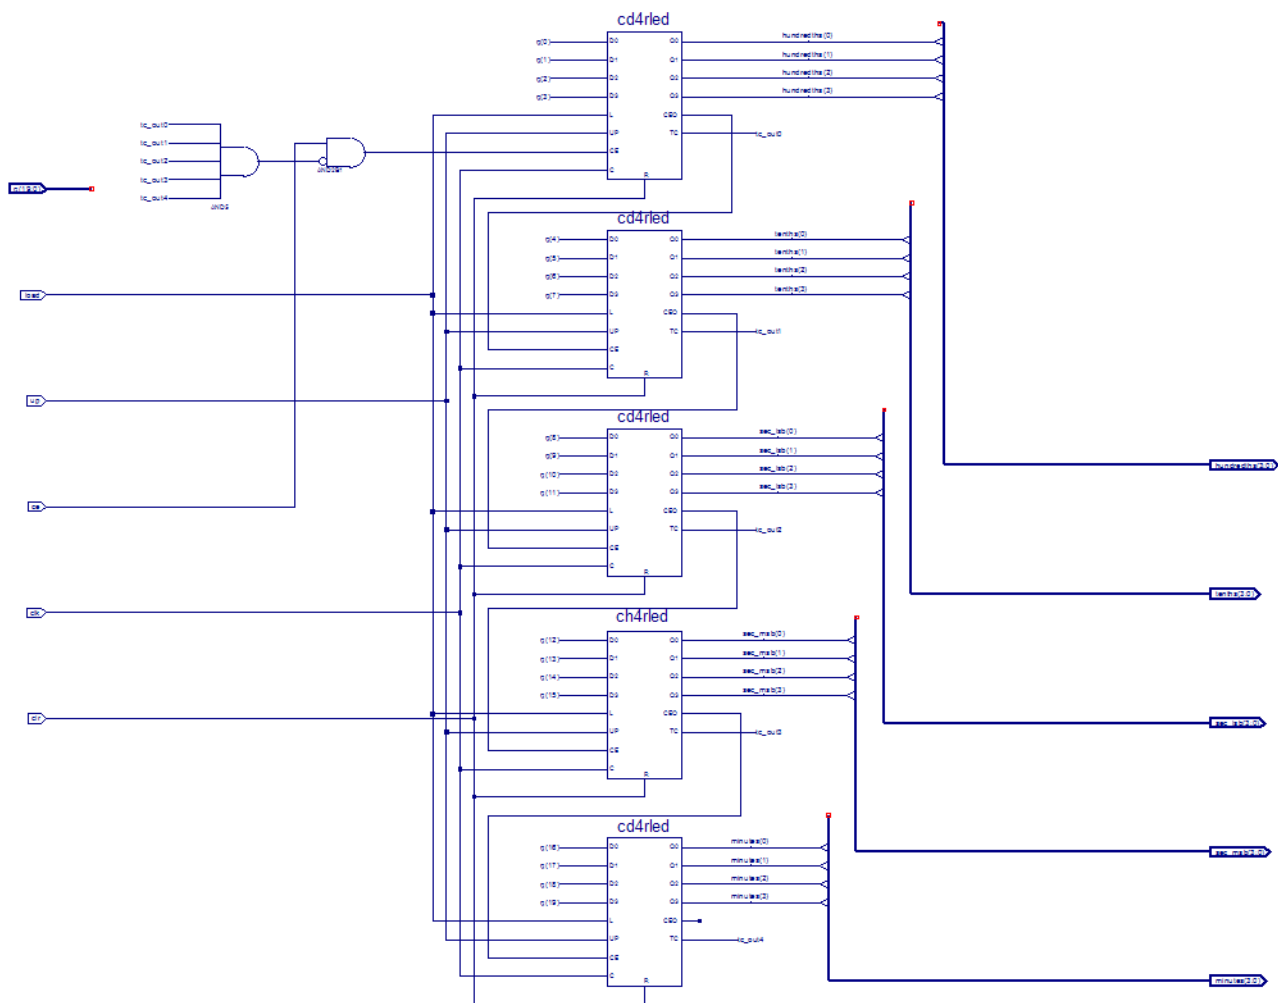

Figure 4-13: Completed time\_cnt Schematic
**Note:** It is the name of the wire that makes the electrical connection between the bus and the wire (for example, sec\_msb(2) connects to the third bit of sec(3:0)). The bus tap figure is for visual purposes only. The following section shows additional electrical connections by name association.
8. Compare your time\_cnt schematic with Figure 4-13 to ensure that all connections are made properly.